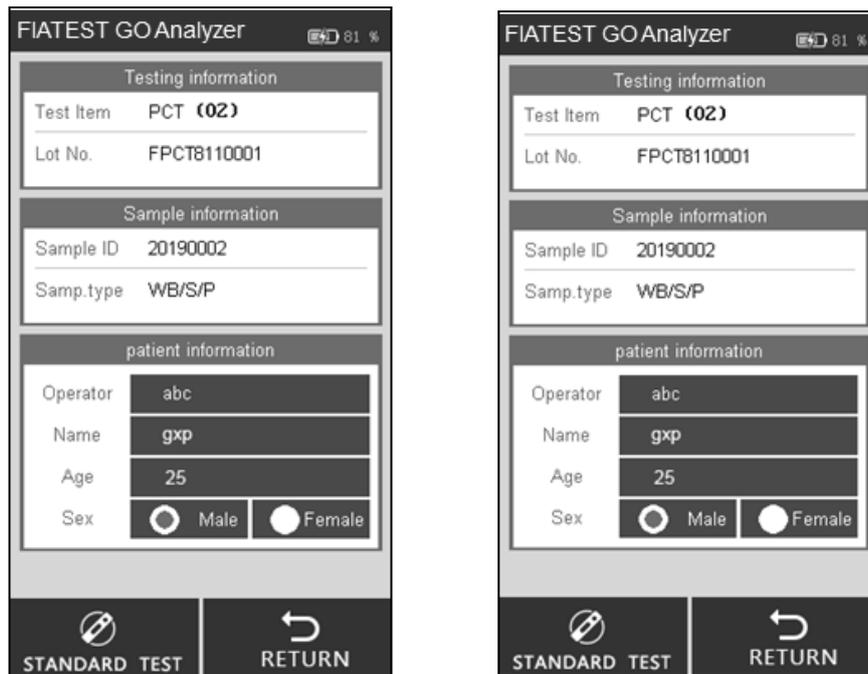

Fig 35
Step 7: Insert test Cassette into the slot immediately after sample addition (and buffer addition, if required) and click "**STANDARD TEST**". The Analyzer will start to count down for incubation. Please wait for the pre-determined incubation time for each test. (Ref Fig 35)